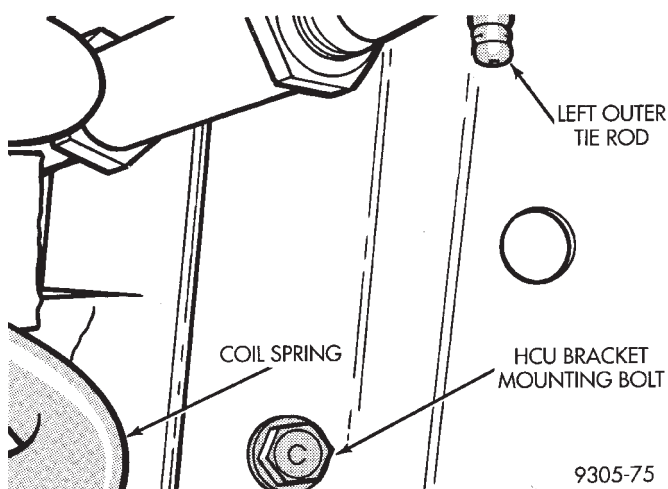
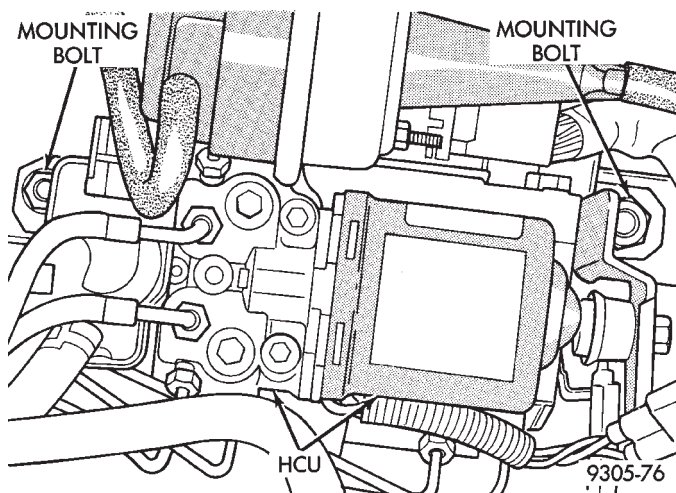

Fig. 7 (HCU) To Inner Fender Mounting Bolt
Fig. 8 (HCU) To Frame Rail Mounting Bolts
(8) Remove the (HCU) bracket to left inner fender attaching bolt (Fig. 7). Remove the 2 (HCU) bracket to left frame rail mounting bolts (Fig. 8).
(9) Remove (HCU) and mounting bracket from vehicle as an assembly.
(10) Transfer the (CAB) module from the failed (HCU) to the replacement (HCU). Refer to Controller Anti-Lock Brakes removal and installation in this section of the service manual, for the require procedure to replace module.
(1) Install (HCU) and bracket as an assembly back on left frame rail of vehicle. Install but do not tighten the 2 (HCU) bracket to frame rail mounting bolts (Fig. 8). Install the (HCU) bracket to inner
fender mounting bolt (Fig. 7). Torque the 2 (HCU) bracket to frame rail attaching bolts to 19 N•m (14 ft. lbs.). The torque bracket to inner fender bolt to 2 N•m (18 in. lbs.).